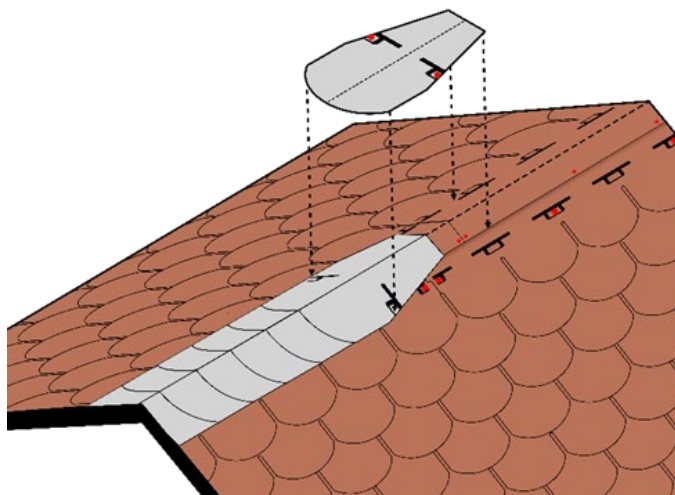

Fig. 11 - Ridge elements installation
- Fix the first ridge element with 2 galvanized nails at least 32mm long, one nail on each side - Fig. 11. Proceed with the installation of the other ridge elements in sequence, leaving an exposed part of 10 cm between one element and the next.